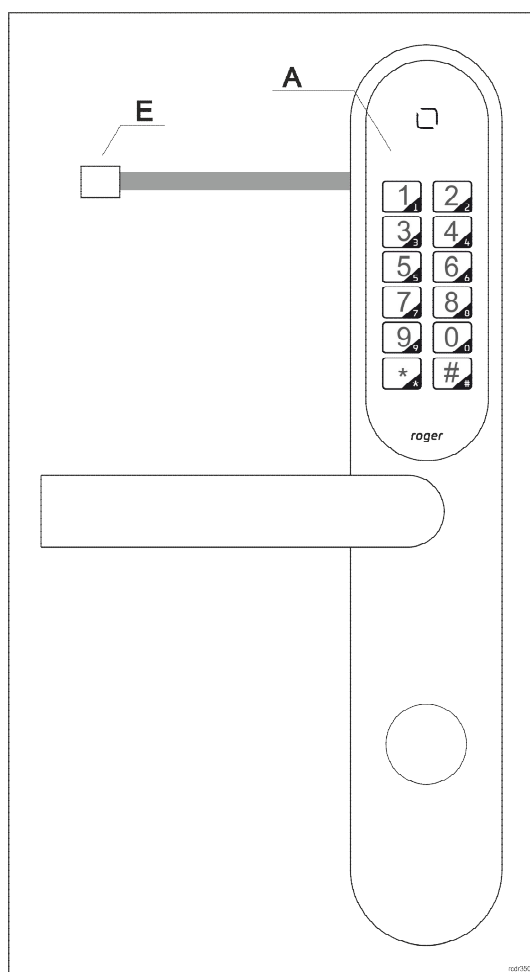

Fig. 3. External part of lock
The internal part of lock consists of escutcheon with handle and it is dedicated to installation at the exit from controlled room. The internal escutcheon includes battery pack with cable and connector (G) which is used to connect supply to external part of lock (E) in fig 3. In order to replace batteries unscrew bolt to remove the cover